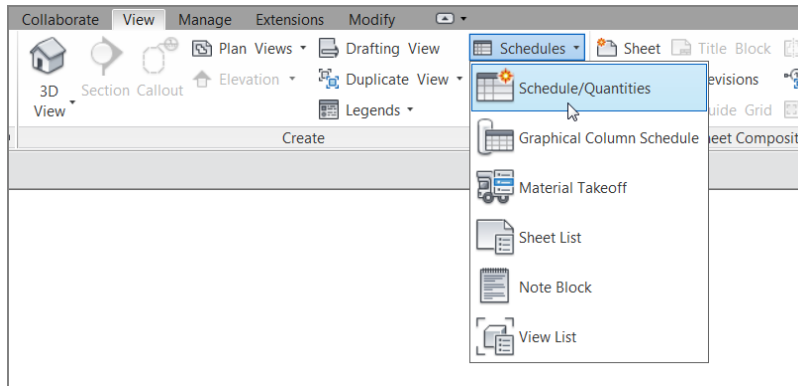

FIGURE 11.1: Click the Schedule/Quantities button on the View tab.
2. On the Create panel of the View tab, click the Schedules > Schedule/Quantities button, as shown in Figure 11.1.